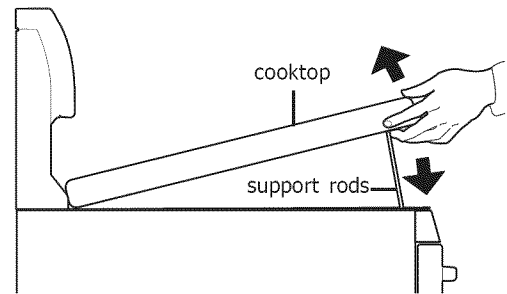

Fig. 1
1. Grasp the sides and lift from the front (See Fig. 1). Lift-up rods will support the top in a raised position. Only lift the cook top far enough to allow the support rods to snap into place.
1. Open oven door completely (horizontal with floor-Fig. 1).